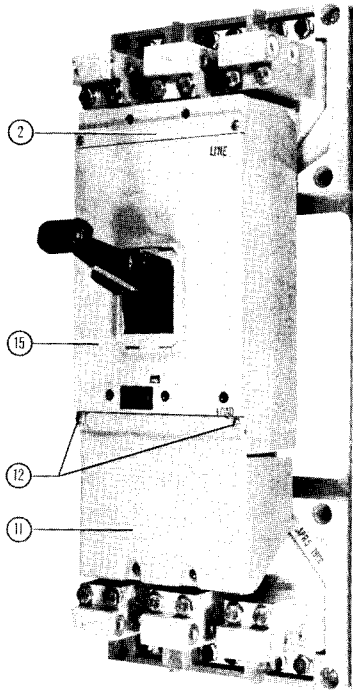
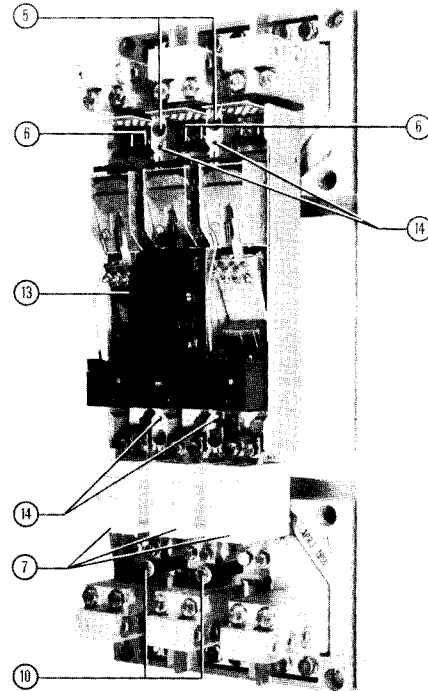
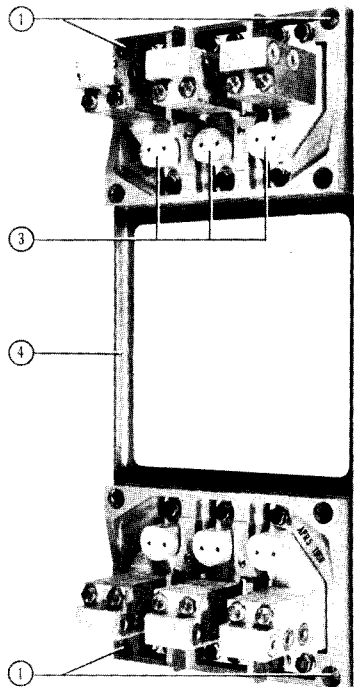

Fig. 1 — Front View of Circuit Breaker Extension Handle in Place
Fig. 2 — Front View of Circuit Breaker End Covers, Breaker Cover and Operating Handle Extension Removed.
Fig. 3 — Connect-All Assembly (Front Connected)
2. Remove four (4) bolts (1, Fig. 3) in the Connect-All assembly, and in a similar location in the Reverse Mounting Block assembly, re-use these bolts to mount the appropriate mounting arrangement to support angles. Tighten bolts securely.
3. (Refer to Figures 3, 8 or 9.) Make line and load bus or cable connections. If CONNECT-ALL assembly is used, bus or pressure wire connectors may be mounted on front or back of terminal straps. If REVERSE MOUNTING BLOCK assembly is used, bus or pressure wire connectors can only be mounted on back of terminal connector straps.
1. Remove breaker end cover assembly (2, Fig. 1) from line end of breaker.
2. Position breaker on round copper terminals protruding from the mounting block connector (3, Fig. 3) and fasten the breaker to the mounting block assembly (4, Fig. 3) with two slotted fillister head screws, flatwashers and lockwashers (5, Fig. 2), furnished with mounting block unit. Tighten screws securely.
3. Make terminal connections between line end breaker terminals and line end mounting block connector straps (3, Fig. 3). Use two hex head machine bolts, flatwashers and lockwashers (6, Fig. 2) per terminal furnished with mounting block unit. Tighten these six bolts with a torque of 11-13 ft.-lbs. Replace breaker end cover assembly (2, Fig. 1).
4. Mount Amp-trap current-limiting fuses (7, Fig. 2) to breaker load terminals and round copper terminals (8, Fig. 5) protruding from mounting block connector straps with four hex head ( $\frac{3}{8}$ " dia. x  $1\frac{1}{2}$ " long) bolts, flatwashers and lockwashers (9, Fig. 5)
5. Assemble Amp-trap cover stud assemblies (10, Fig. 2) to the appropriate mounting block arrangement. Tighten studs securely.
6. Fasten Amp-trap cover assembly (11, Fig. 2) to cover studs, (screws are captivated on the Amp-trap cover assembly), and to breaker with two #10 screws, flatwashers and lockwashers (12, Fig. 1) furnished with the Amp-trap unit. Tighten screws securely.
1. Move operating handle (13, Fig. 2) to "OFF" position.
2. Remove Amp-trap cover assembly (11, Fig. 1), retain screws.
4. Remove line side end cover assembly (2, Fig. 1).
5. Remove hex head bolts, flatwashers and lockwashers (6, Fig. 2) which connect the breaker line terminals to the pads of the mounting arrangement.
6. USING EXTREME CARE: Loosen and remove breaker mounting fillister head screws, flatwashers and lockwashers (5, Fig. 2) from line end of breaker. CAREFULLY lift breaker away from its mounting arrangement.
5. Remove breaker cover screws (14, Fig. 2) and breaker cover (15, Fig. 1).
5. Replace Amp-traps (7, Fig. 2), secure in place with four hex head bolts, lockwashers and flatwashers (9, Fig. 5) per Amp-trap.
6. Replace breaker cover (15, Fig. 1) and cover screws (14, Fig. 2).
7. Mount breaker on mounting block unit (either Connect-All or Reverse Mounting Block). Replace end cover assembly (2, Fig. 1) and Amp-trap cover assembly (11, Fig. 1).